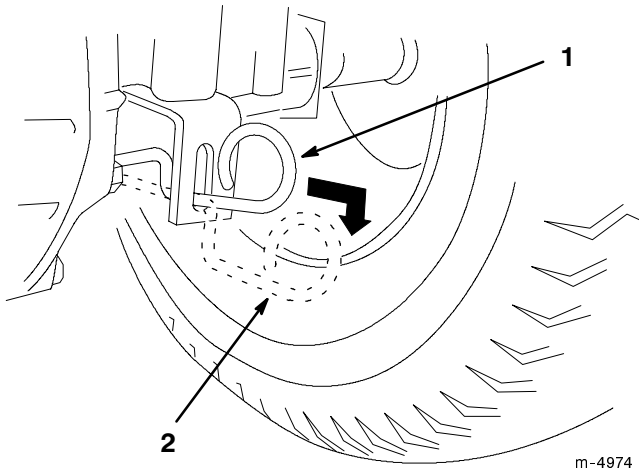

Figure 3
2. Place the drive control in the “Push” position (Fig. 3).
3. Run the engine at a low idle and move the traction control pedal forward for five (5) seconds then reverse for five (5) seconds. Repeat three (3) times.
4. Place the drive control in the “Operate” position (Fig. 3). Drive the tractor forward then reverse approximately five (5) feet. Repeat three (3) times.